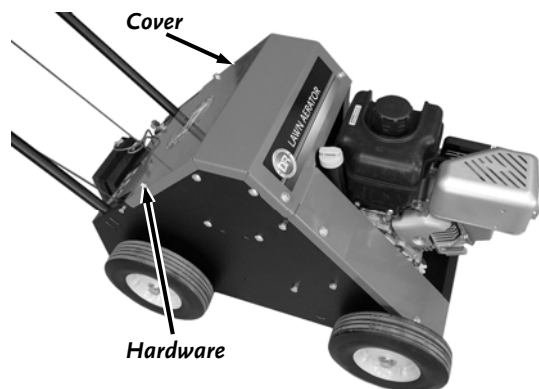

Figure 26
1. Remove the four Bolts and Flat Washers that secure the Cover using a 7/16" Wrench (**Figure 26**) and remove the Cover.